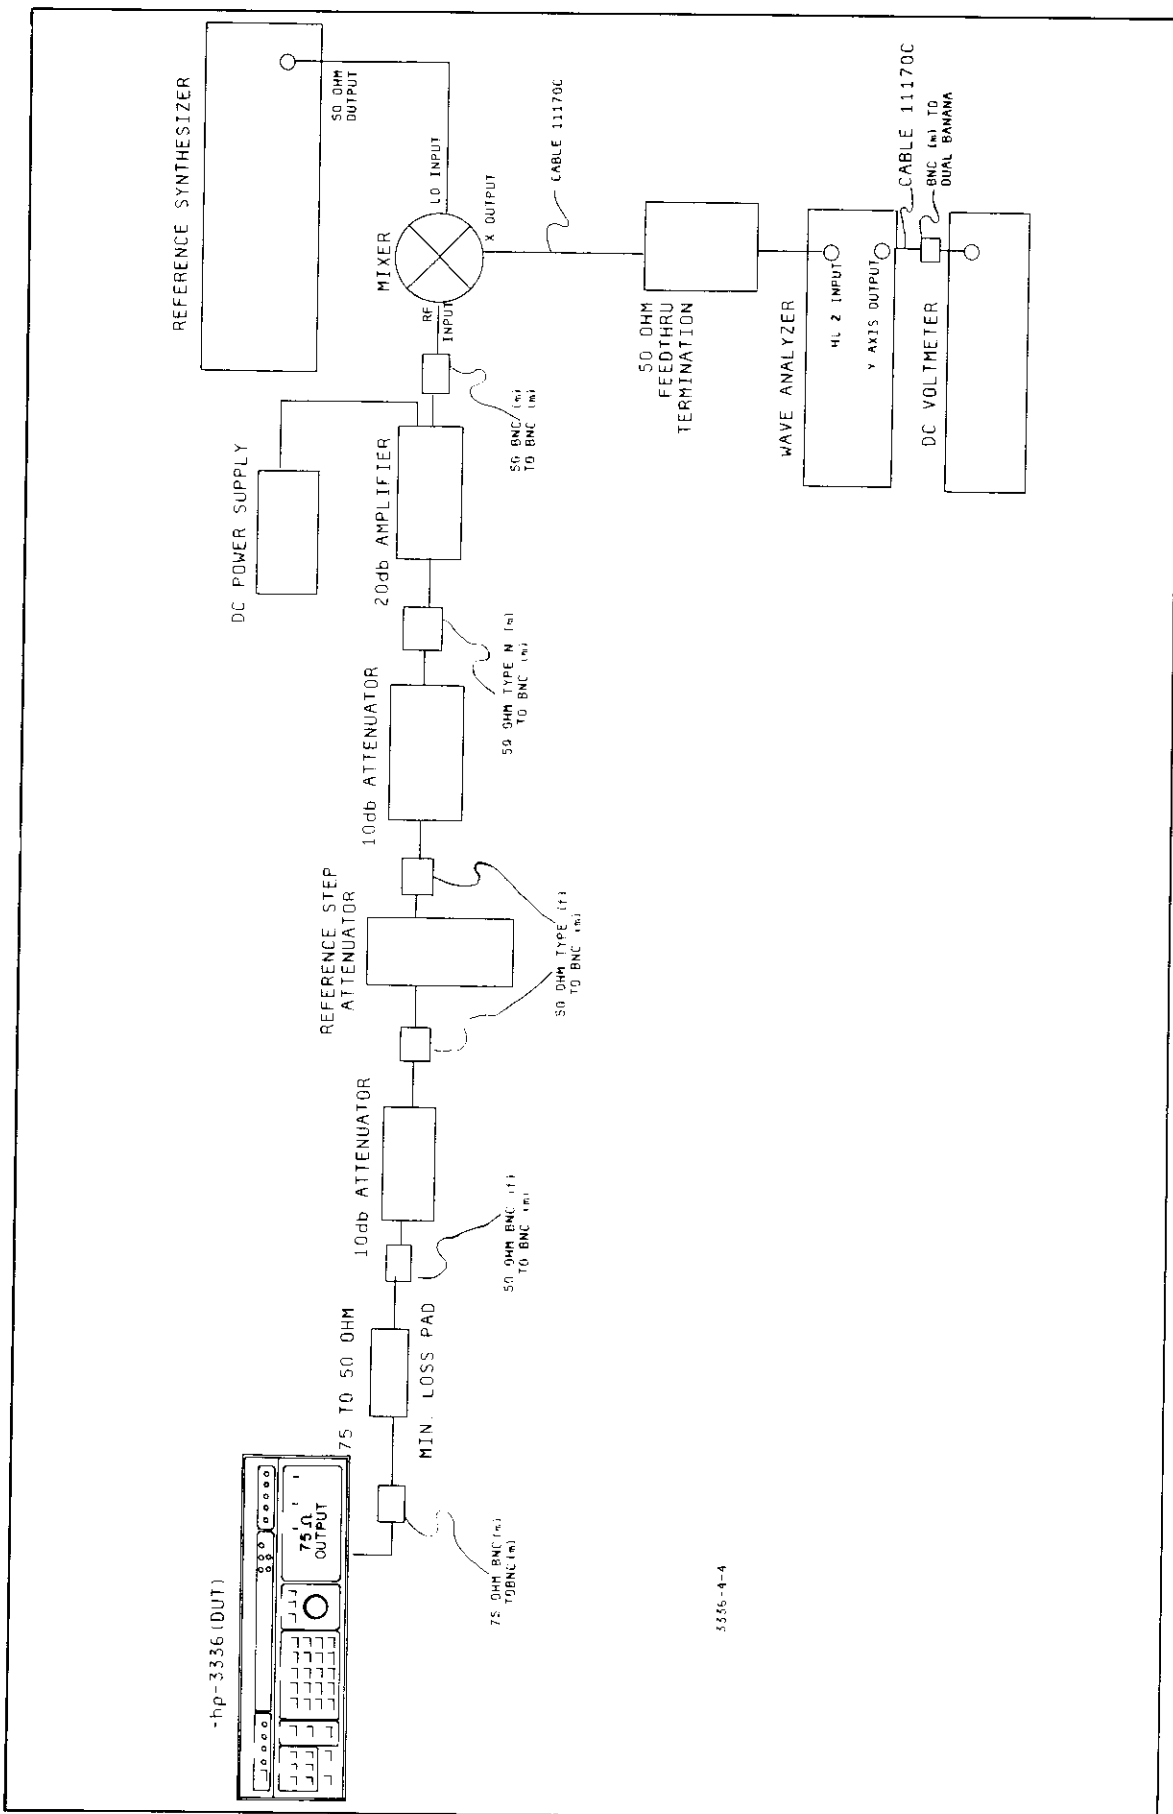
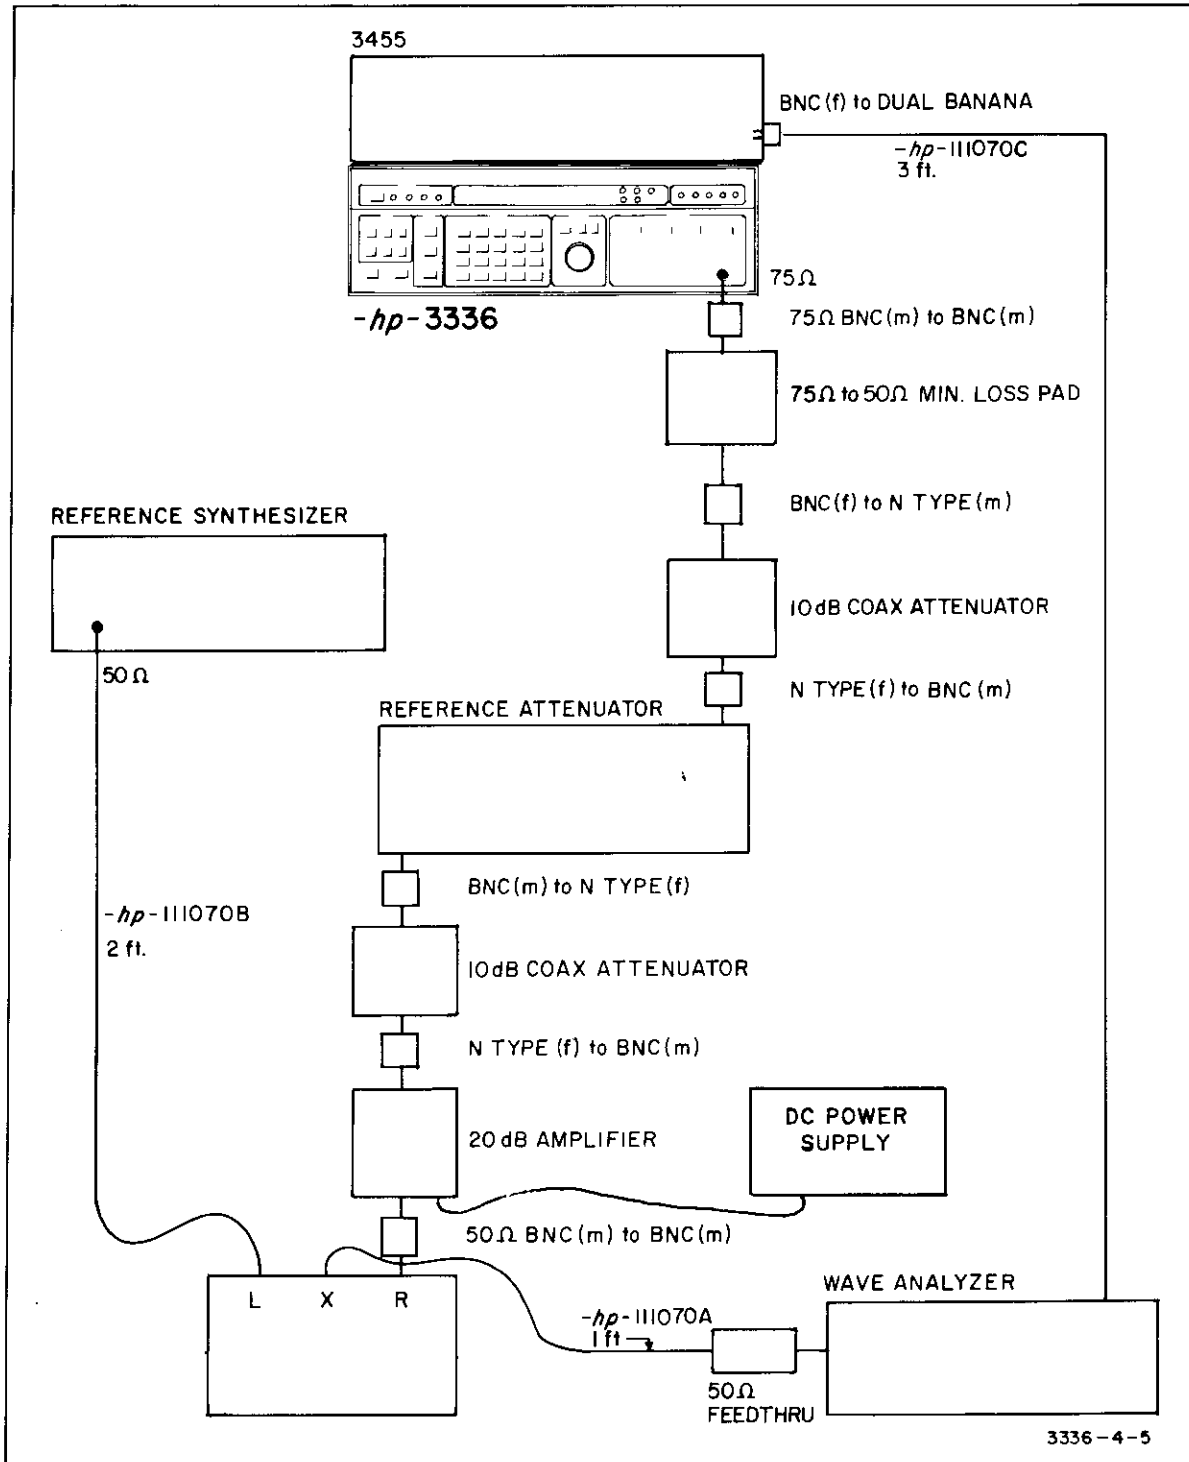

Figure 4.4. Equipment Set Up for Attenuator Accuracy Test
Figure 4-5. Physical Location for Attenuator Accuracy
- a. Connect the equipment electrically as shown in Figure 4-4 and physically as shown in Figure 4-5.
The quality of the test results depends upon the equipment arrangement. It is important that the physical location of the instruments be as shown in Figure 4-5. Do not cross cables. Allow the Q-Bit Amplifier 30 minutes to warm-up.